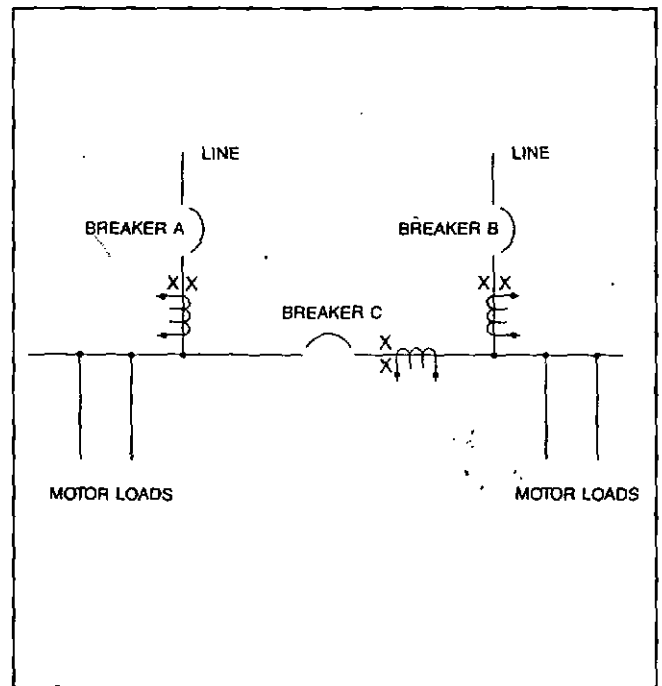

Figure 3.4 Power Distribution
**3.2.1.4 Power Distribution —** Referring to Figure 3.4, three conditions typically can be encountered.